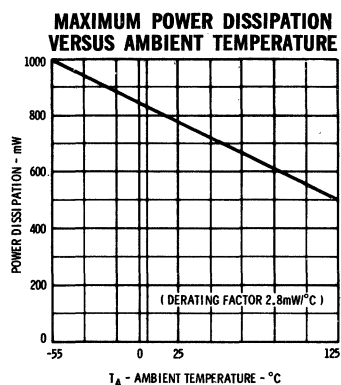

FIGURE 4
- (1) Derating factor as shown in Fig. 4 is 2.8 mW/ $^\circ C$ .